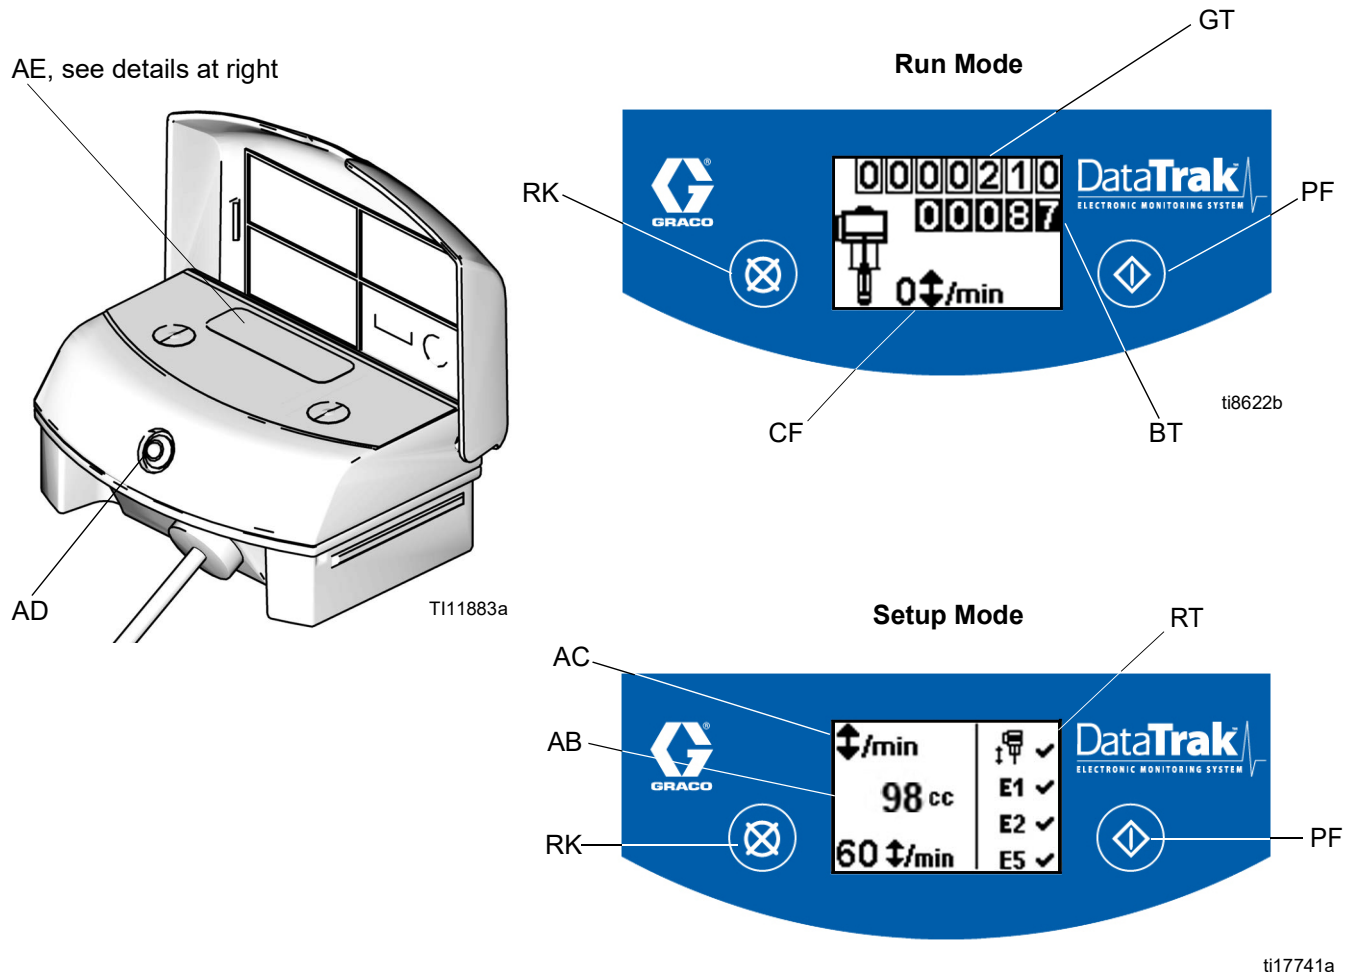

FIG. 4. DataTrak Controls and Indicators
Key for FIG. 4
1. See FIG. 4, page 33. Press and hold  for 5 seconds until Setup menu appears.
1. See FIG. 4, page 33. To enter Prime/Flush mode, press any key to wake up the display, then press . The Prime/Flush symbol will appear in the
See FIG. 4, page 33. The last digit of the batch totalizer (BT) represents tenths of gallons or liters. To reset the totalizer, press any key to wake up the display, then press and hold  for 3 seconds.
See FIG. 4, page 33. The display (AE) will turn off after 1 minute of inactivity in Run mode or 3 minutes in Setup mode. Press any key to wake up the display.
DataTrak can diagnose several problems with the pump. When the monitor detects a problem, the LED (AD, FIG. 4) will flash and a diagnostic code will appear on the display.